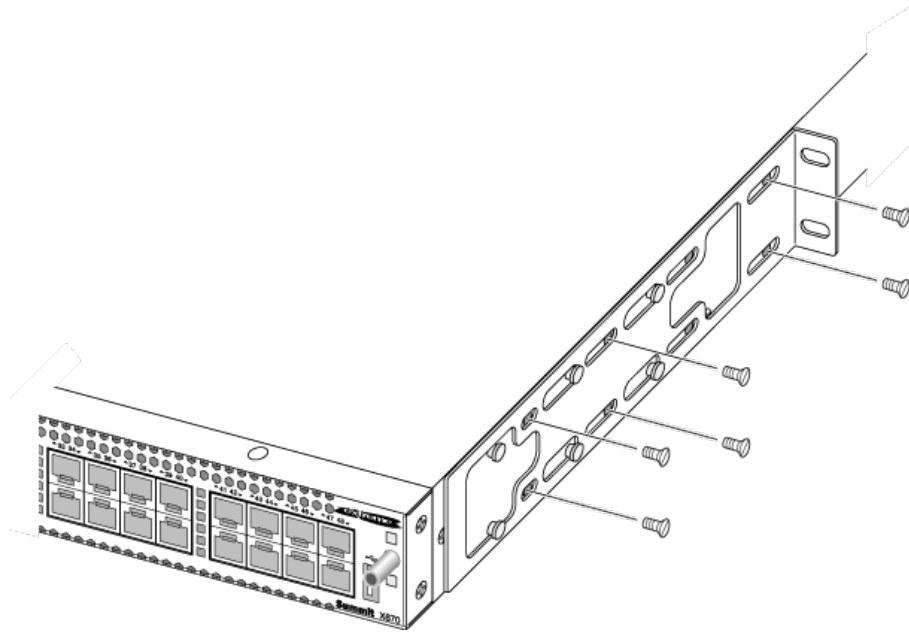

Figure 169: Mid-Mount: Attaching a Long Mounting Bracket
- Figure 169 shows a mid-mount configuration using a long mounting bracket.